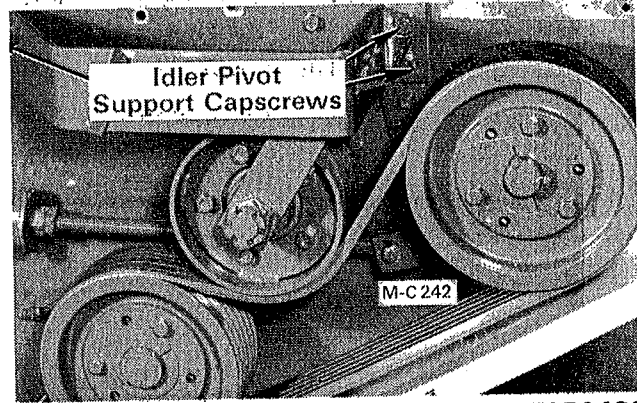
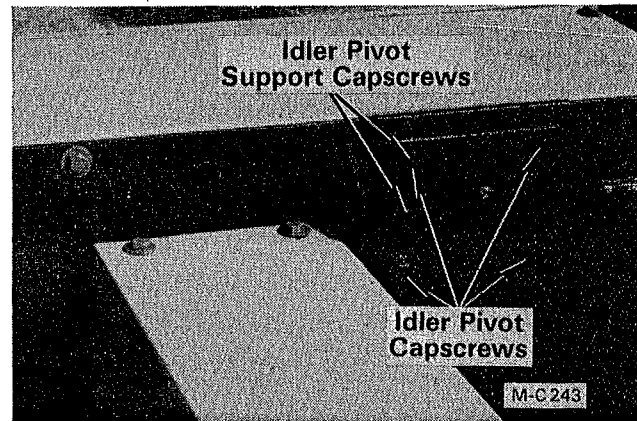

Figure 35 - Idler Push Rod Ass'y. Below S/N 50439
Figure 36
4. The idler pivot support is adjustable horizontally and the idler pivot is adjustable vertically, see Figure 35.
5. Loosen the idler pivot support capscrews, see Figure 35, and the idler pivot capscrews, see Figure 36.